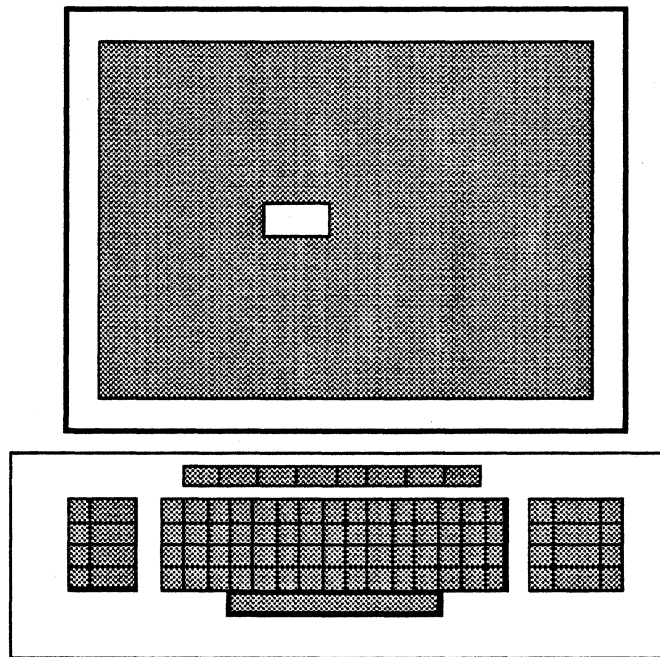

Figure 6.1
- 2) Select Bye. The workstation returns to idle mode (figure 6.1).